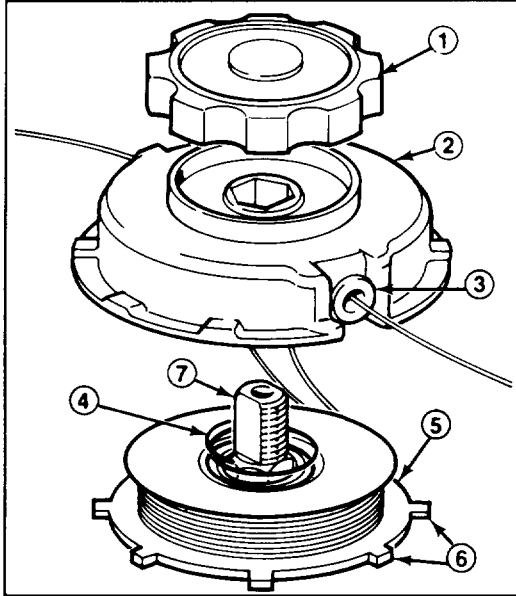

Figure 10
1. Loosen spool knob until it can be removed (Fig. 10).
B. Insert end of line into spool line retainer. Pull line thru so equal amounts of line are on each end (Fig. 10).